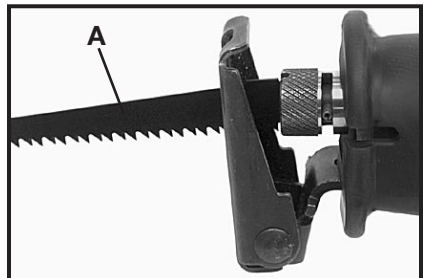

Fig. 3
4. Insert the blade into the clamp until it bottoms. Allow the release collar to rotate clockwise to lock the blade in place, (A) Fig. 3.